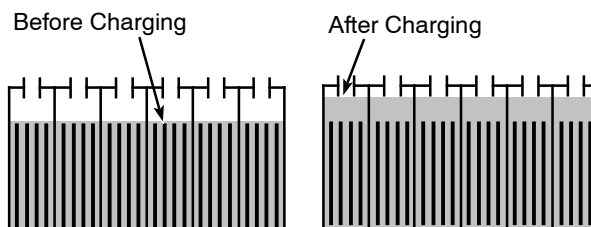

FIG. 49
1. Check battery fluid level frequently to prevent battery damage. The fluid should be at the level shown (Figure 49). Add distilled water if low. DO NOT OVERFILL, the fluid may expand and overflow when charging.